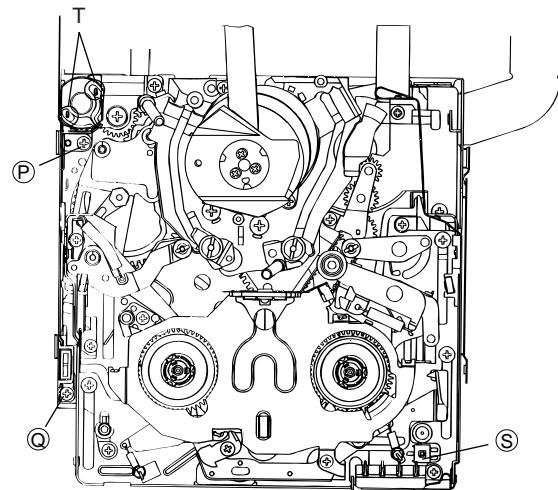

Fig. 5. STANDBY mode
- 1) In Fig. 5 remove the screws **P** and **Q**.
Note) The loading motor solder joint (part T, Fig. 5) of DEW sensor FPC applied to the down switch angle is not removed. After the down switch angle is removed, take care so that the DEW sensor FPC is not broken.